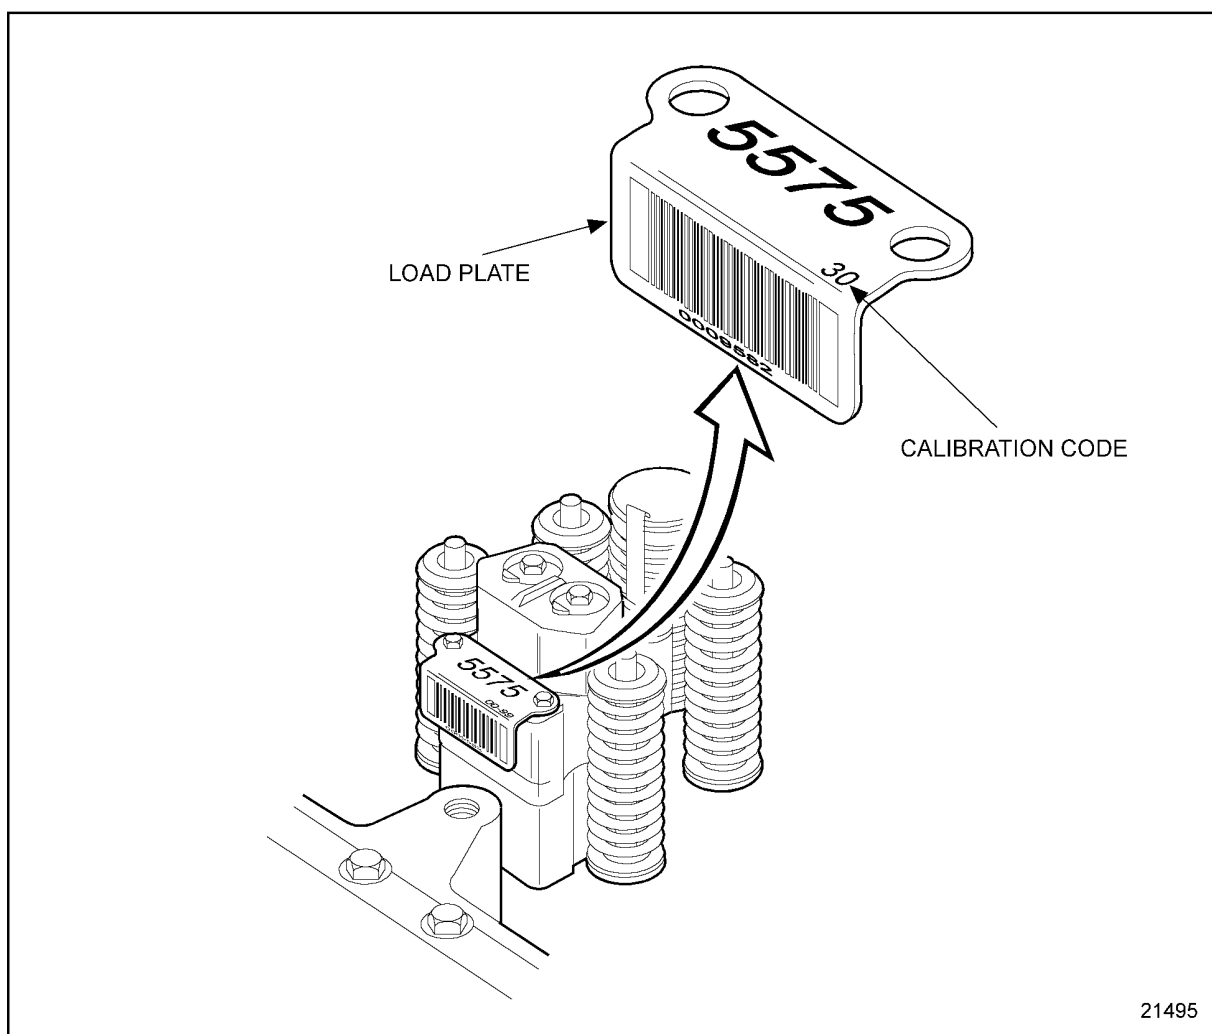

Figure 16-1 **Injector Calibration Code**
2. Record the injector calibration code of each injector noting the cylinder number; see Figure 16-1.
- [a] If the calibration code on the display is different then the calibration code on the suspect injector for that cylinder, the injector setting must be repaired, see Figure 16-1; refer to Section 16.3.1.
See Figure 16-1 when performing step 1 through step 7.